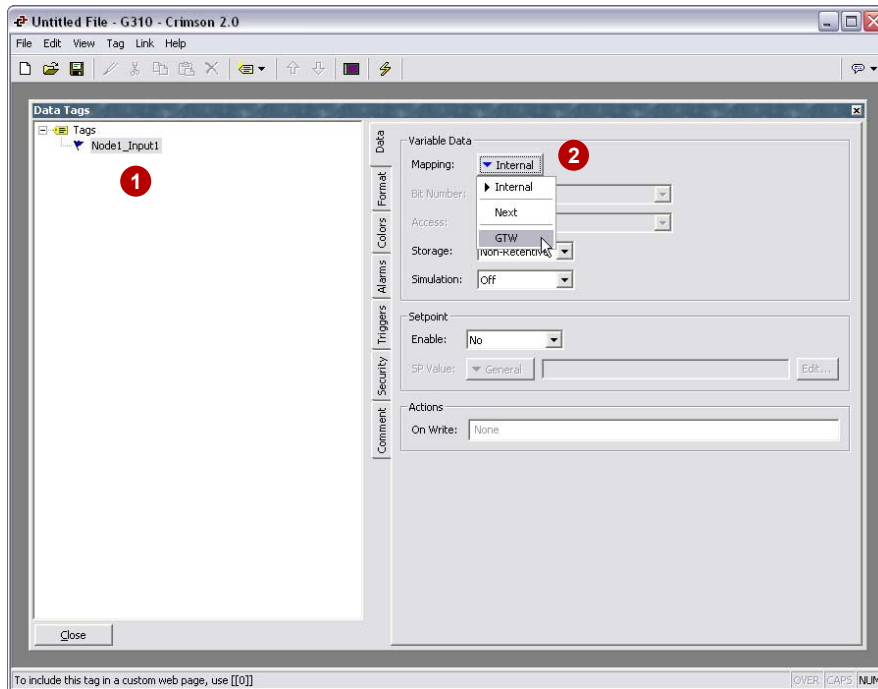

Figure 9
2. Click on the Internal button next to Mapping. The GTW device created in Communications is available as shown in Figure 9.